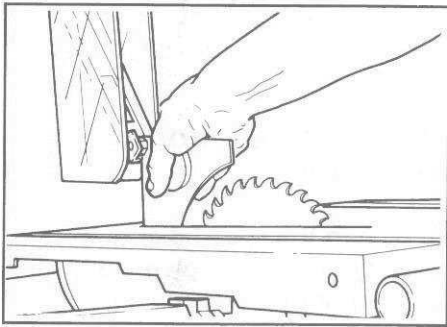

Figure 14. Raise the guard up and grasp the top of the riving knife.
7. Install the upper saw guard. Grasp the top of the riving knife, with the guard up, and slide the guard through the table insert into the lower guard. (See Figure 14.) **Tighten the guard lock knob.**